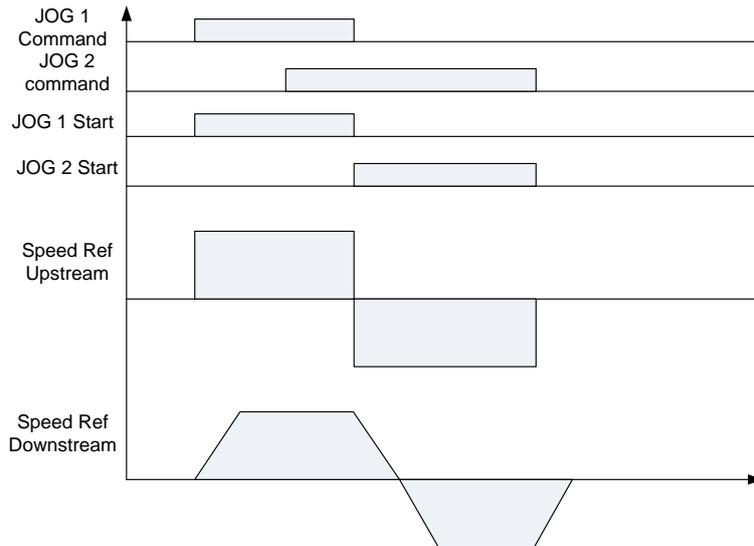

Fig. 3-84: JOG behavior in case of JOG1 e JOG2 commands overlapping
- If the JOG1 is activated and then it JOG2 Command is activated, only when JOG1 command is low the speed reference will be set to JOG2 reference (Fig. 3-84).